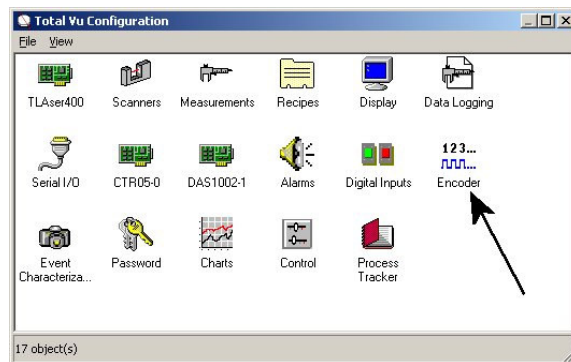

Figure 6.
Step 6: Start the Total Vu Software. There is an encoder icon in the *Configure>Full Configuration* Screen (See Figure 6.). Click this icon and enter the parameters for the encoder to be used. System measurements *Speed* and *Length* are also set up here. These measurements can then be displayed or used in other functional measurements and in data logs.